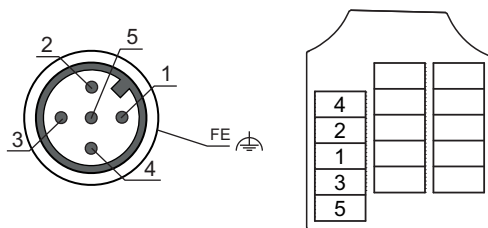

Figure 7.4: PWR / SW IN/OUT connection
If the BPS 301i is the last participant on the bus cable, the BUS OUT socket on the MS 301 must be provided with a terminator plug (see table 14.3) or the bus termination on the MK 301 must be activated with slide switch T (see figure 7.4).
↪ The bus is terminated via slide switch T in the MK 301 (see figure 7.4).
- ↪ If the current BPS 301i is the last bus participant, set slide switch T to ON (see figure 7.4) to activate bus termination.
↳ Terminate the last physical RS 485 participant on the MK 301 connection hood with slide switch T (ON position, see figure 7.4).